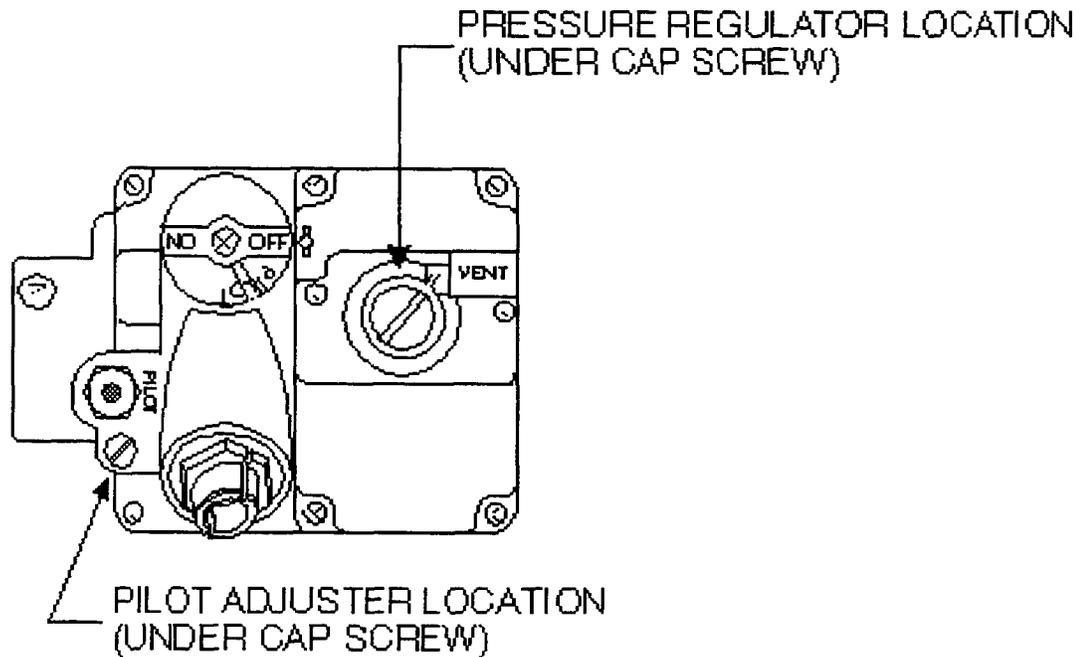

Figure 1-3 Gas Valve Showing Location of Pressure Regulator and Pilot Adjusters
- f. Turning the flame adjusting screw (figure 1-3) clockwise lowers the flame and the millivolt output. Turning the screw counterclockwise increases flame size and millivolt output.
- d. To adjust the pressure, remove the regulator adjustment screw cover (see Figure 1-3). Use a flat tip screwdriver to adjust the screw until the proper pressure is reached. Turning the screw clockwise will increase the pressure, counterclockwise will decrease the pressure.